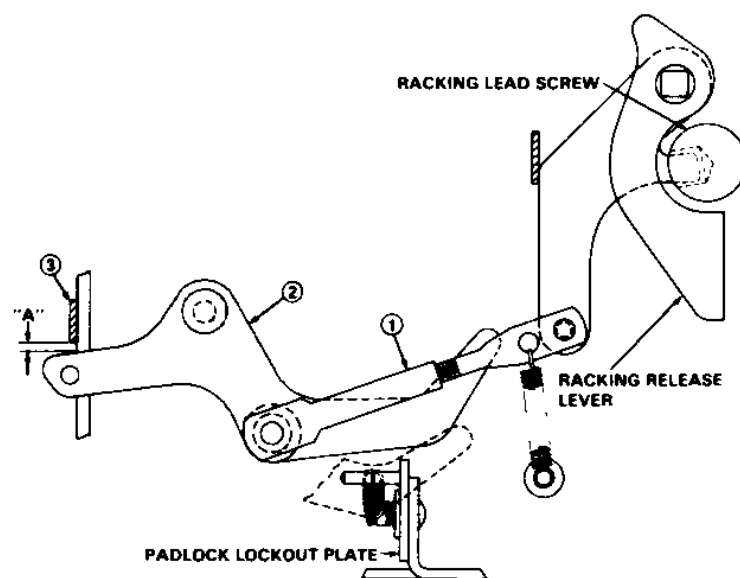

Fig. 7 - Racking Mechanism
**5.11 RACKING MECHANISM (See Figure 7)**